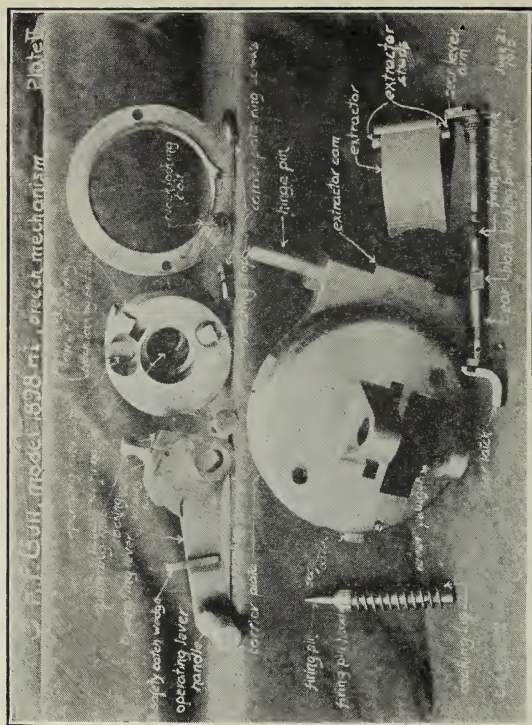

FIG. 12.
A. Block, carrier plate, carrier plate ring, block locking bolt, operating lever, firing pin, extractor and hinge pin. (See Figs. 12 and 13.)